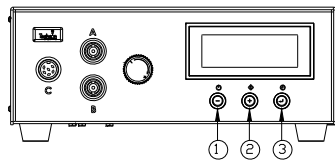

Figure 9.0
5.5 CYCLE COUNTER (Refer to Figure 9.0)
5.6 TO CHANGE PRESSURE UNIT DISPLAY (Refer to Figure 9.0)
1. Press and hold Set button (3) for two seconds to enter setup screen.
3. Press both Set button (3) and (+) button simultaneously to change unit display to "bar". Repeat this step to change unit display back to "psi"
4. Press and hold Set button (3) for two seconds to exit setup screen.
5.7 LOW PRESSURE SETTING (Refer to Figure 9.0)